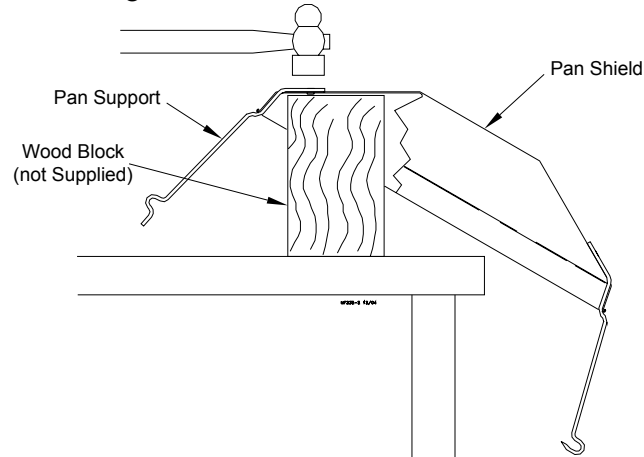

Figure 17. Pan Shield Assembly
1. Attach one Swing Down Pan Support and three regular Pan Supports to the Pan Shield using rivets supplied. Always attach the Swing Down Pan Support at the same location on all pan shields. It will be necessary to support the Pan Shield while installing the rivets. Use a hammer to drive rivets as shown in **Figure 17**.
3. Rivet the Pan Supports on the Control Unit Shield. **See Figure 17 (on page 18) for instructions on riveting.**